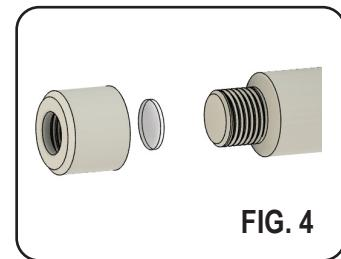

FIG. 4
**Note:** Your UV Dynamics UV detection probe has a removable secondary quartz window on the face of the probe that can be cleaned or replaced in the instance of fouling. See FIG 4. A spare window is included with your unit - be sure to store it somewhere safe for later use. The sensor cap serves only to hold the secondary quartz window in place and it should be screwed down only enough to secure the window. Overtightening the cap will crack the secondary quartz window, which can obscure UV readings and cause the primary probe body to become fouled.